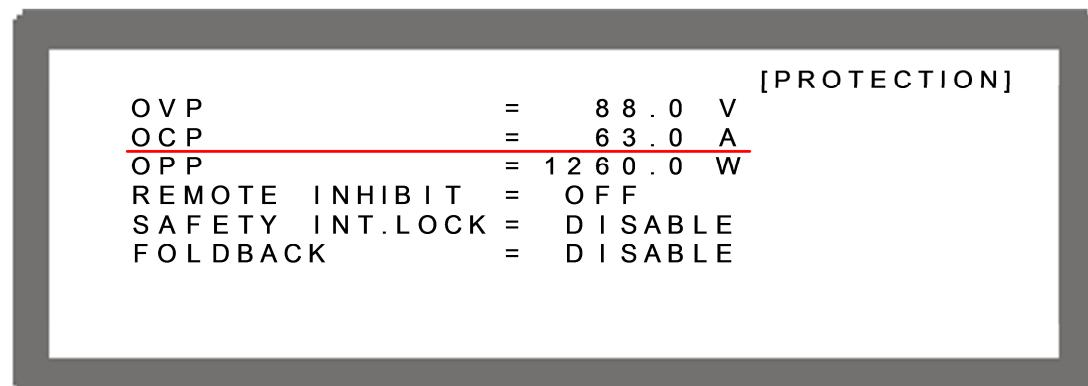

Figure 3-75
1. Use the “”, “” keys to move the cursor to the column to be set as shown in Figure 3-75.